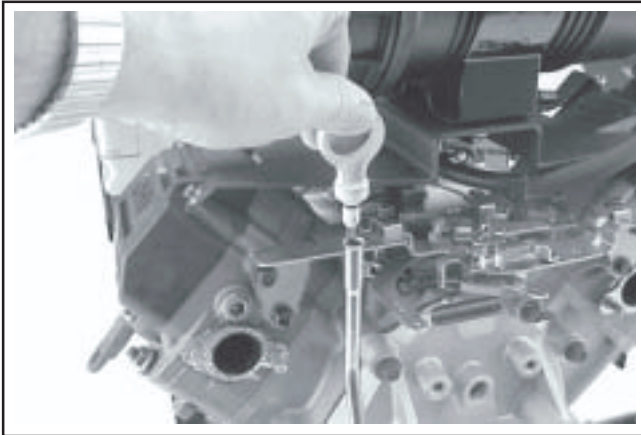

Figure 6-2. Checking Oil Level.
- Pull out the dipstick and wipe off the oil. Reinstall the dipstick into the tube and push it all the way in. See Figure 6-2.